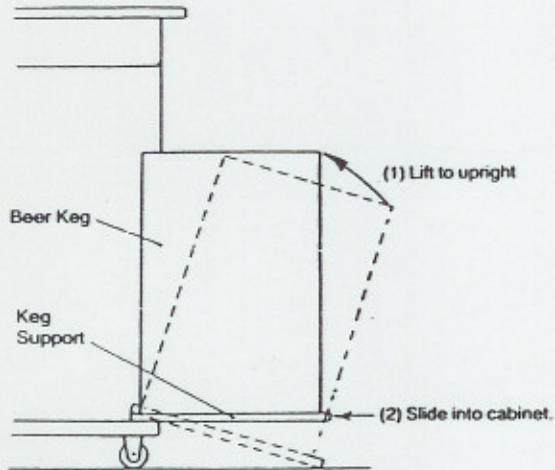

Fig. 3
- d. Make sure the keg is properly tapped, then open shutoff valve on CO₂ regulator. To install beer keg into cabinet follow the steps below (see Fig. 3).